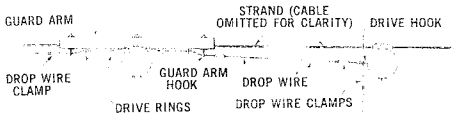

**Fig. 5 – Cable Terminal Mounted on Cable Side of Pole**
**8.01** Distribute drop wires from a guard arm as shown in Fig. 5 and 6.